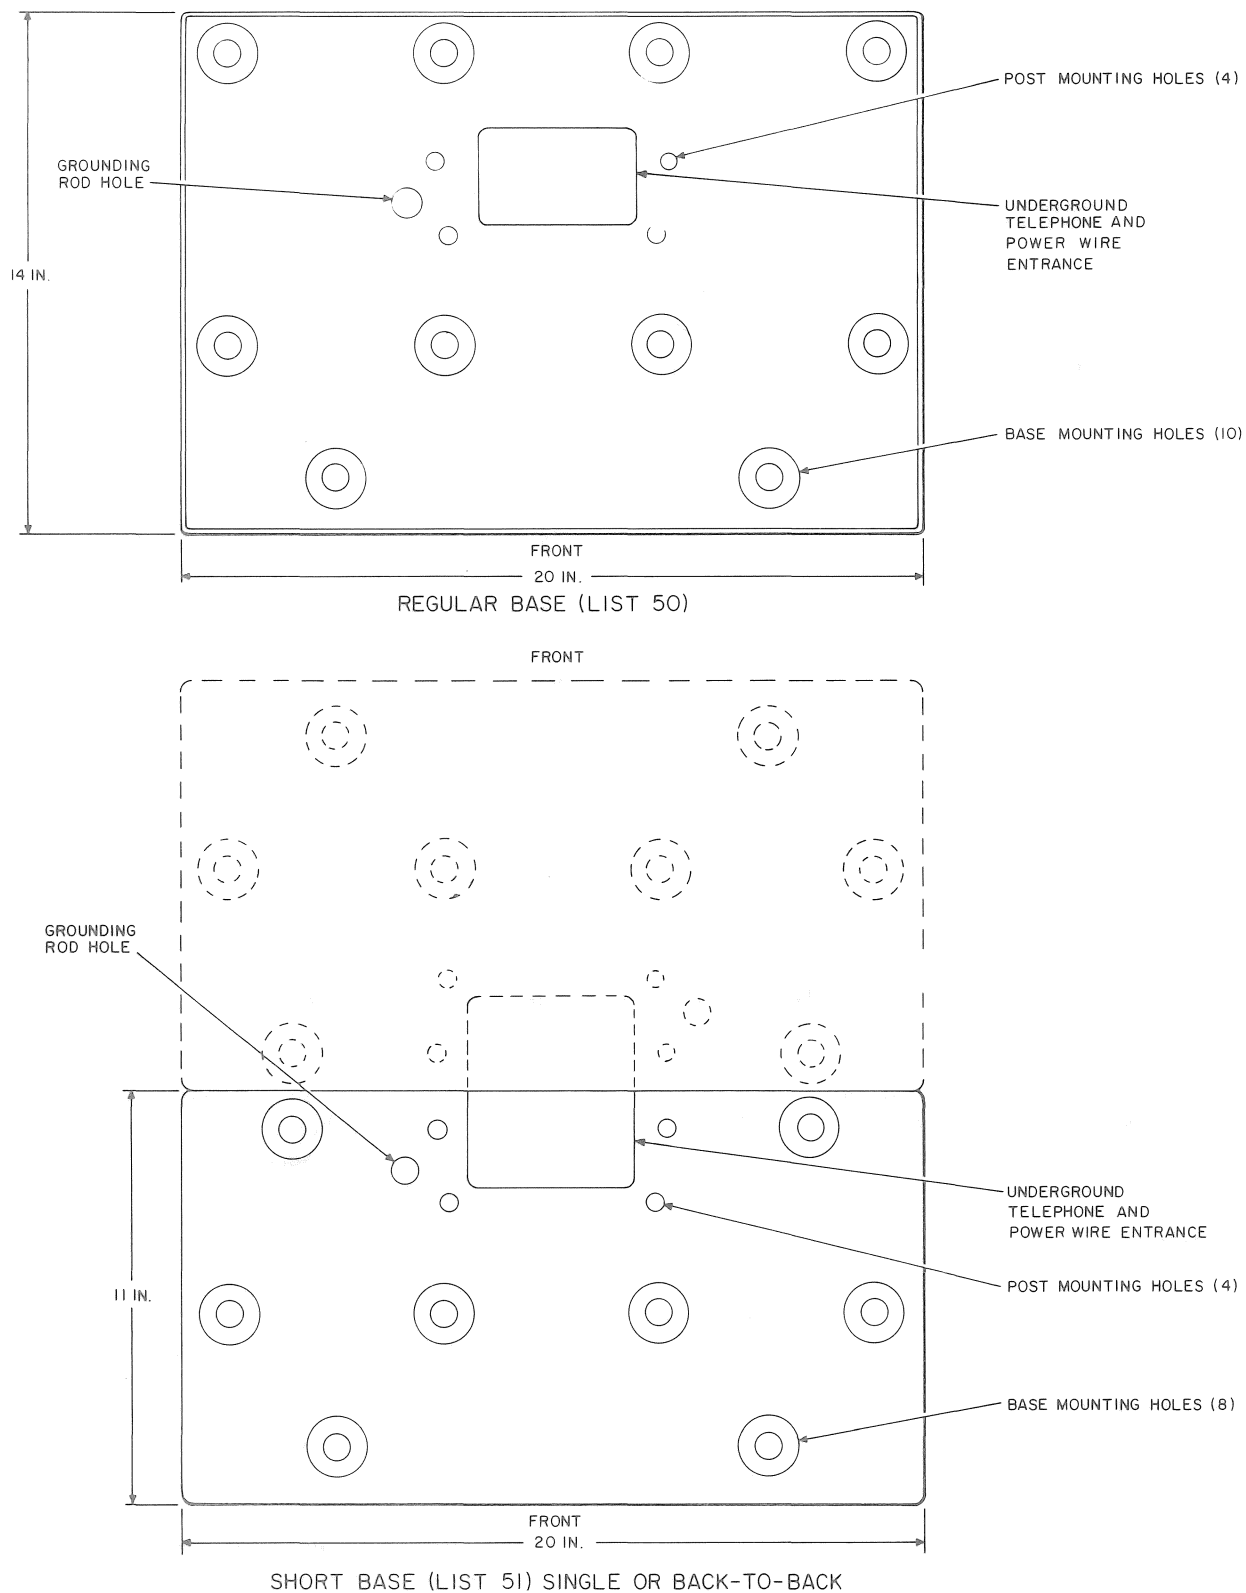

Fig. 16—Layout of Holes on List 50 and List 51 Bases, With Cover(s) Removed
Note 1: Installation procedure given is for the KS-20842, List 50 regular base. Procedure for the List 51 short base is identical, except there are only eight mounting holes in the base and only one base cover. Refer to Fig. 16 for layout of mounting holes on each base. The solid line for the List 51 base represents
underground power and telephone wires are to be used, ensure that the conduit studs in the mounting surface correspond to the wire entrance hole in the base (Fig. 16).
(10) Remove the four 5/8-11 by 1-3/4 hex head cap screws and four 5/8-inch flatwashers from the base of the post. Align the four mounting holes in bottom of post (Fig. 10) with holes in base (Fig. 16) and using the removed hardware, install the post assembly to the base.
(11) With the post in the upright position, position the assembled base and post over the drilled holes. Secure the base to the mounting surface using the appropriate hardware as